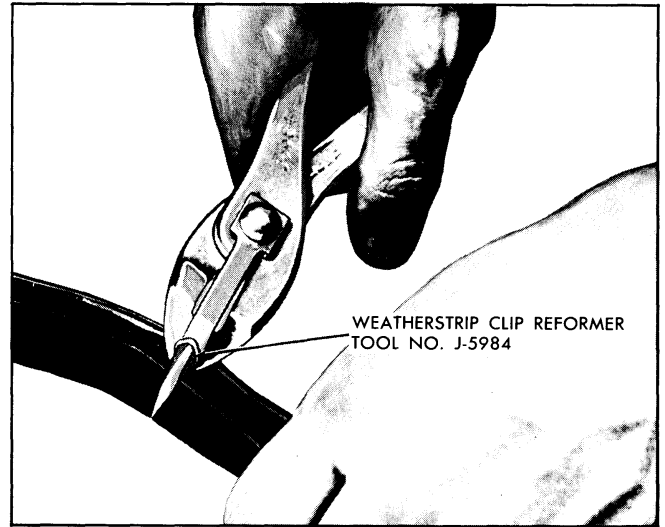

Fig. 15-19 Weatherstrip Clip Reformer Tool
2. Check weatherstrip clips for proper contour and reform clips, where required, using clip reforming tool J-5984 (Fig. 15-19).